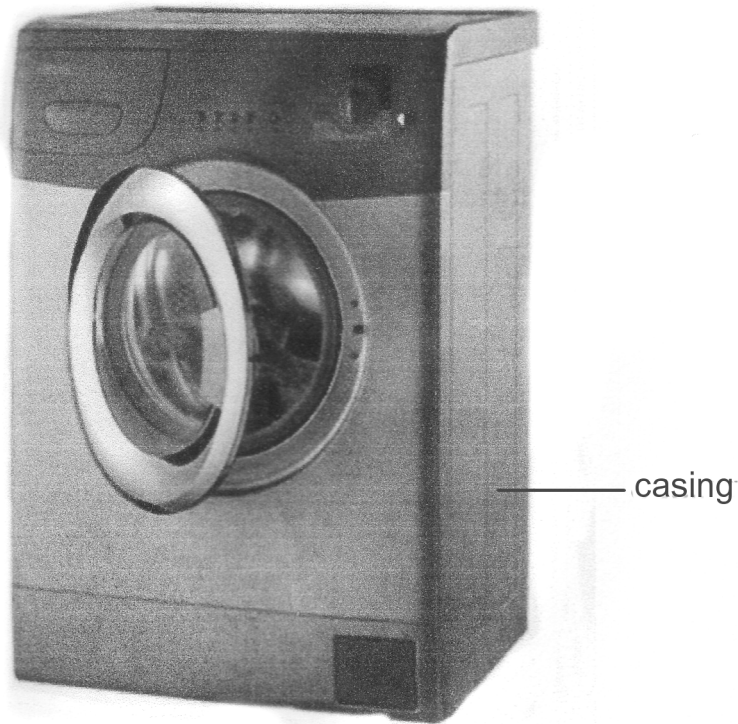

Fig.6
5 Fig. 6 shows a washing machine.
- (d) The washing machine shown in Fig. 6 is an example of a product that has been designed and manufactured with 'built-in obsolescence'.